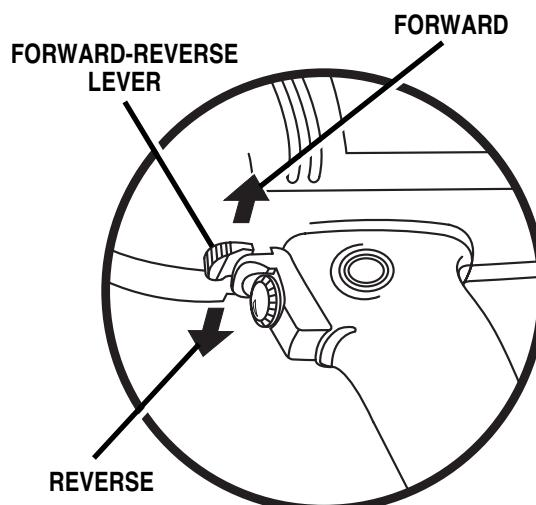

Fig. 4
See Figure 4.
2. Check the direction of rotation lever for correct setting (forward or reverse). *See Figure 4, Page 7.*